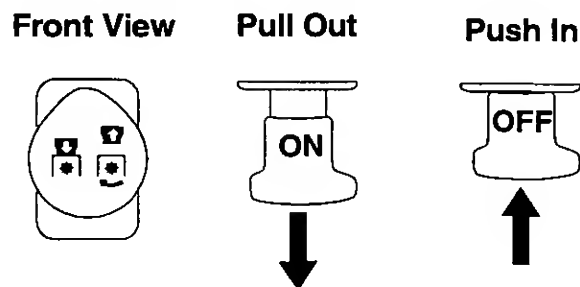

Figure 7
- Pull the PTO knob outward into the engaged (ON) position. See Figure 7.
**IMPORTANT:** *The PTO knob cannot be in the engaged (ON) position when the tractor is driving in the reverse direction. The PTO knob must be in the disengaged (OFF) position when the shift lever is in REVERSE or the PTO will automatically shut off. Refer to SAFETY INTERLOCK SWITCHES in this section.*